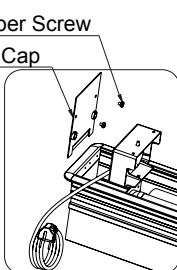

Figure 8
- Unscrew and remove the End Place (two screws, figure 8).